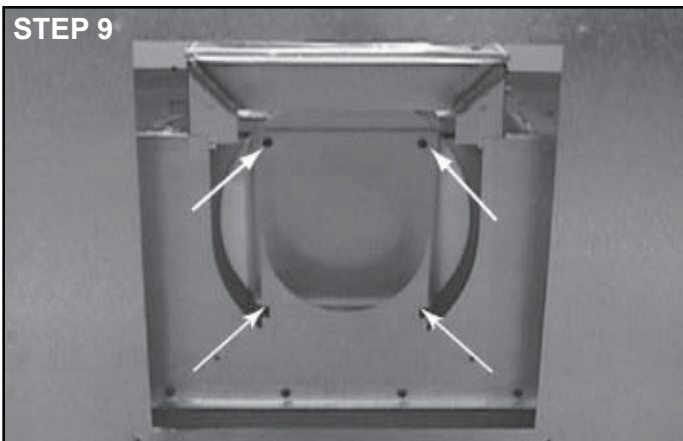

Figure 9.12 Remove Inner Cover Plate
- Remove four screws holding inner cover plate to appliance back. See Figure 9.12. Remove inner cover plate and set aside.